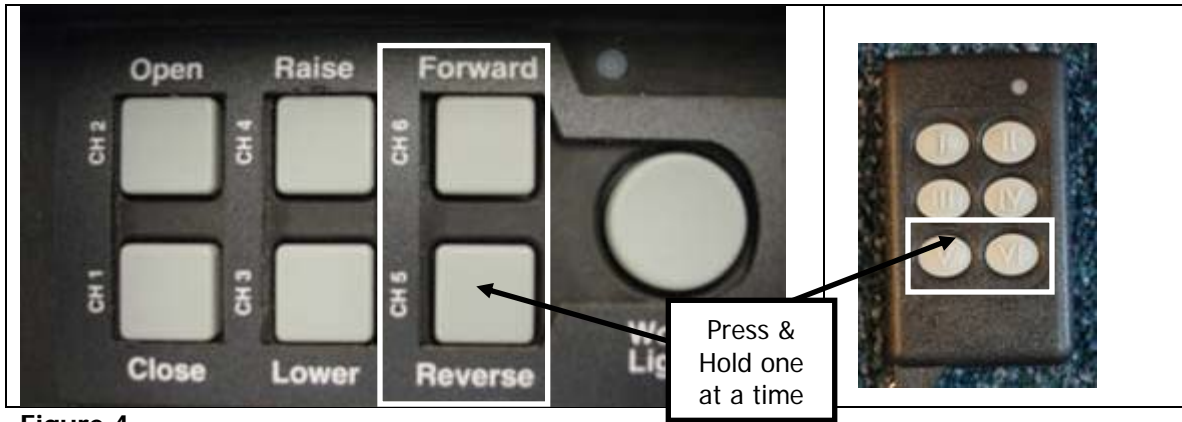

Figure 4
- 4) Deploy tarp over container the rest of the way. If you have sliding pivots adjust forward and backward as needed. Buttons 5 & 6 on your control box or key fob will operate your sliding pivots for and aft (see Fig. 4). On non remote control systems there will be a manual valve to operate your sliding pivots.